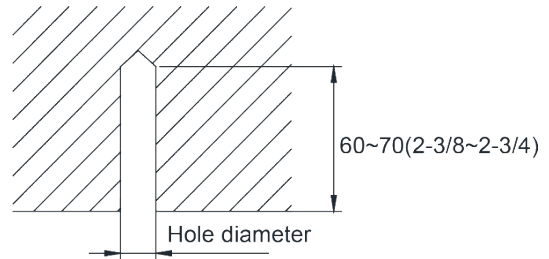

Fig 4.1.4
- 1) Place the installation template at the selected mounting location. Drill four holes at the marked locations on the template. Match the hole diameter to the expansion bolts being used. Drill each hole 60–70 mm / 2-3/8–2-3/4 in. deep, as shown in Fig. 4.1.4